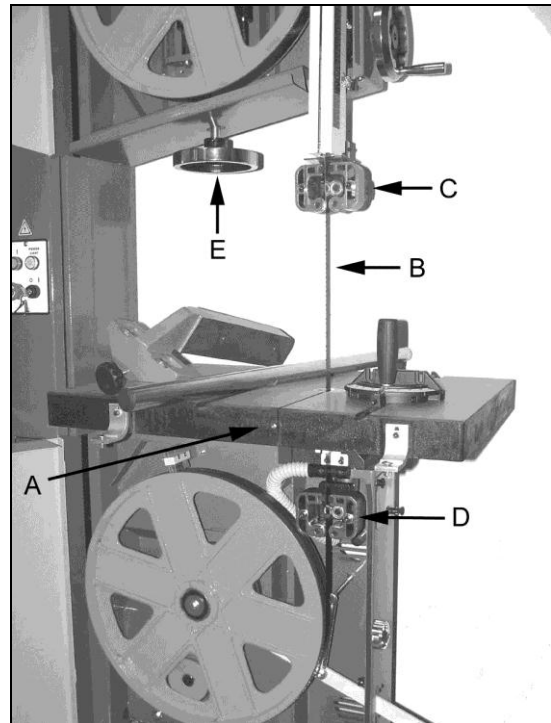

Figure 5
4. Remove table pin (A, Figure 5).
7. Center the blade (B, Figure 5) on both the upper and lower wheels. Carefully thread the blade through the upper and lower blade guides (C & D) as shown in Figure 5. **Note:** It may help to move the upper wheel down. This can be accomplished by rotating the handwheel (E, Figure 5).
2. At this point the blade should be properly positioned, but slack. Increase tension on the blade by rotating tensioning handwheel (E, Figure 5).
3. Move the upper guide assembly (C, Figure 5) and lower guide assembly (D, Figure 5) if they interfere with the blade during tensioning.